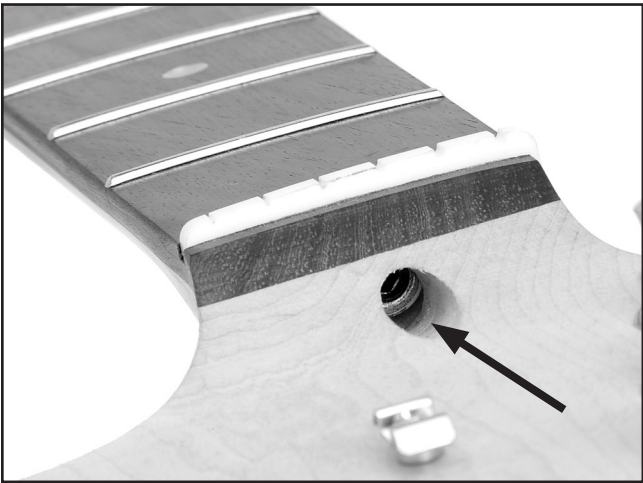

Figure 31. Truss rod nut.
3. Loosen the strings and turn the truss rod nut in the base of the neck (**Figure 31**) counterclockwise with a 4mm wrench to release tension on the neck. Retighten until the nut begins to grab.